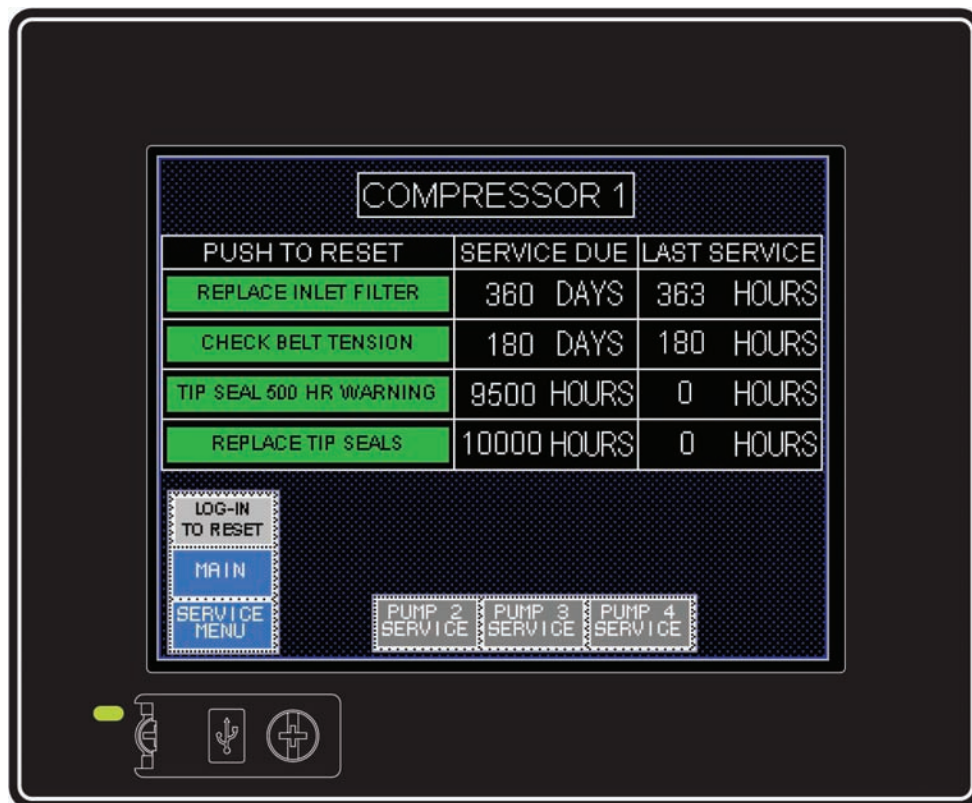

FIG 3.3.4.b. Service Schedule Screen
10. To return to the “Service Menu Screen” (FIG 3.3.4.a.) touch the “Service Menu” button in the lower left corner.